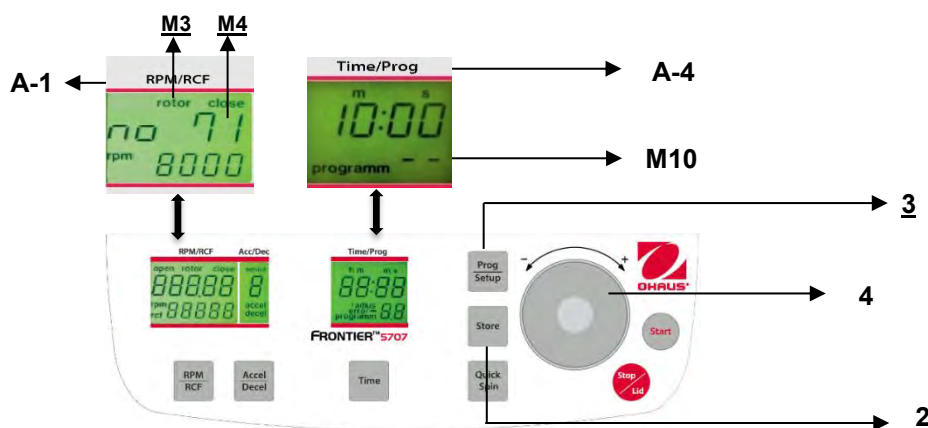

Figure. 23
To recall stored programs press the key **"Prog/Setup"** (3) (refer to figure 23) while the lid is already closed. Inside the display **"Time/Prog"** (A-4), **"programm --"** (M10) appears. The desired program number can be pre-selected with the adjusting dial (4).
To leave the program mode just press the key **"Prog/Setup"** (3) (refer to figure 23). Then inside the display **"Time/Prog"** (A-4) the word **"programm"** (M10) appears.